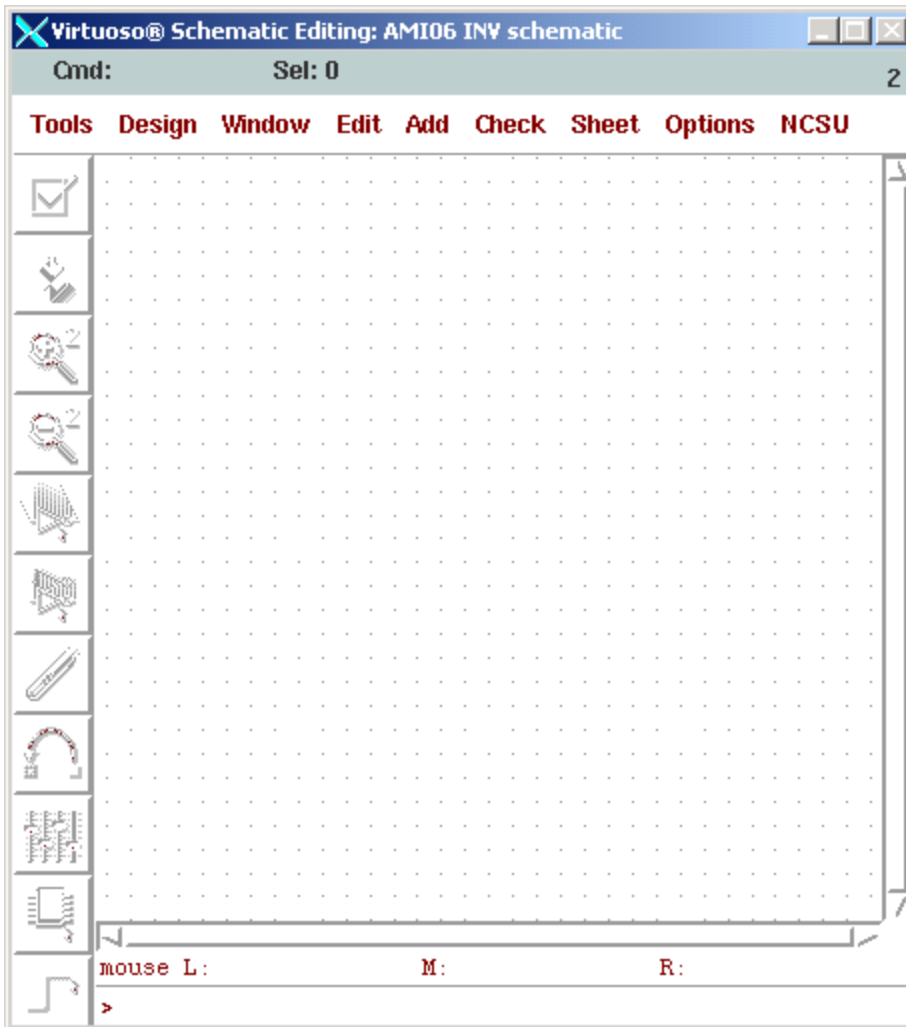

Figure 12: The schematic capture tool.
3. Click OK. The schematic entry tool should appear (Figure 12).